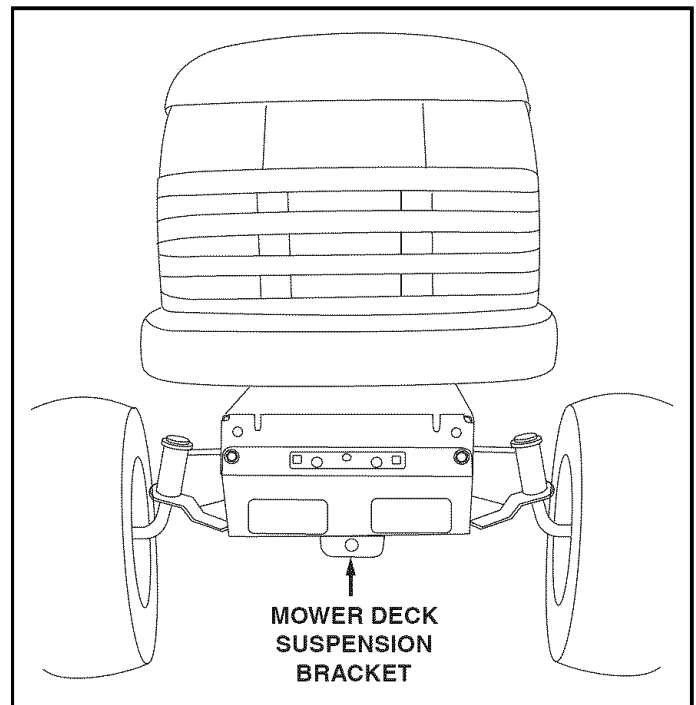

FIGURE 1
**IMPORTANT:** If your tractor has a mower deck suspension bracket located under the middle of the front axle as shown in figure 1, continue with the instructions on page 3. If your tractor does not have a mower deck suspension bracket like the one shown go to page 4.